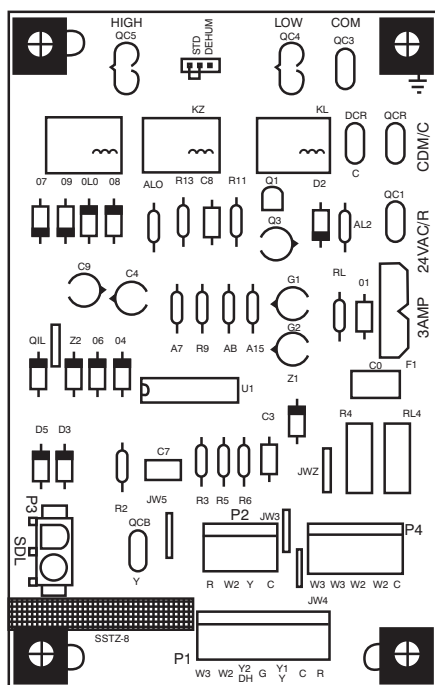

Fig. 11 - Interface Fan Board (IFB)
The cooling speed is marked "LOW" on the interface fan board (IFB) (See Fig. 11) . The factory-shipped settings are noted in Table 5. There are 4 additional speed tap wires available for use in either electric heating or cooling (For color coding on the indoor fan motor leads, see Table 3). The additional 4 speed tap wires are shipped loose with vinyl caps and are located in the control box, near the interface fan board (IFB) (See Fig. 11).
2. Remove the current speed tap wire from the "LOW" terminal on the interface fan board (IFB) (See Fig. 11) and place vinyl cap over the connector on the wire.
1. Using Fig. 11, move the two pin DEHUM jumper from the “STD” position to the “DEHUM” position.
2. Remove fan speed tap wire from the “LOW” terminal on the interface fan board (IFB) (See Fig. 11).
When the DEHUM feature is not used, the continuous fan speed will be the same as cooling fan speed. When the DEHUM feature is used, the continuous fan will operate on IFB “LOW” speed when the DH control lead is not energized, or IFB “HIGH” speed when the DH lead is energized (see Fig. 11).